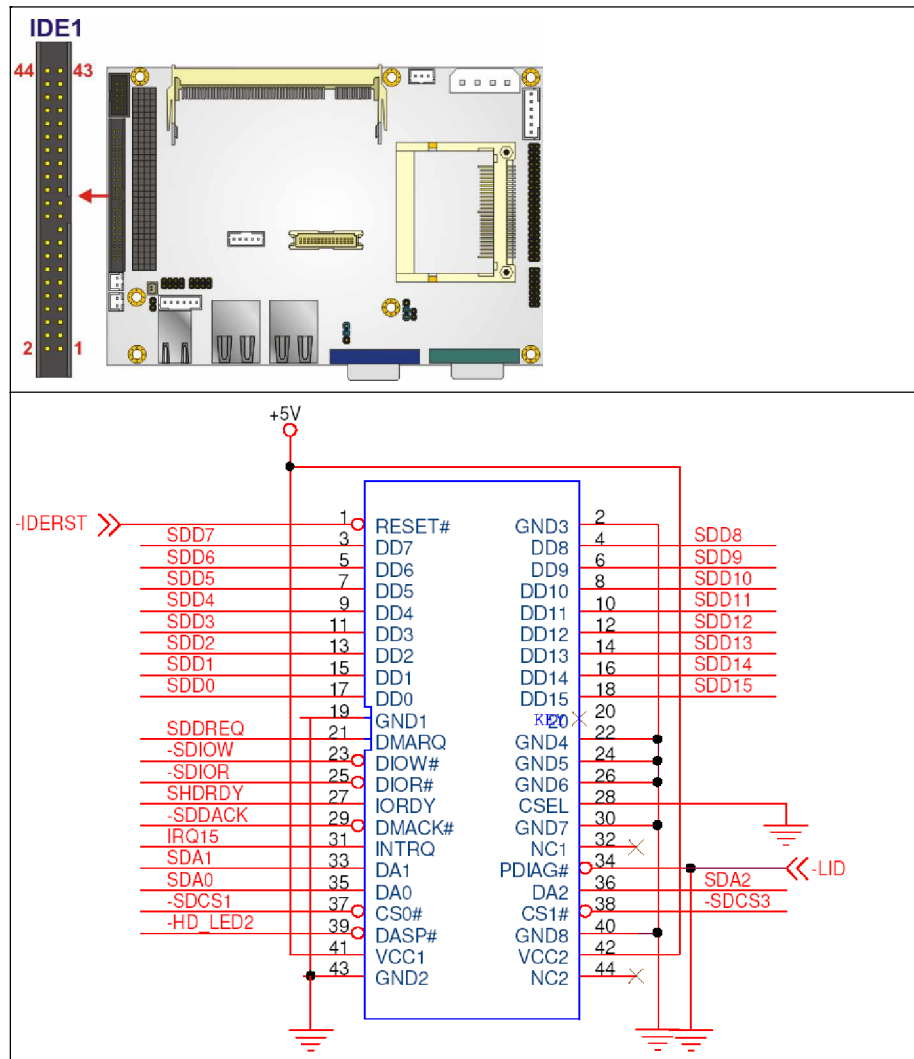

Figure 4-6: IDE Device Connector Location
- CN Location:** See **Figure 4-6**